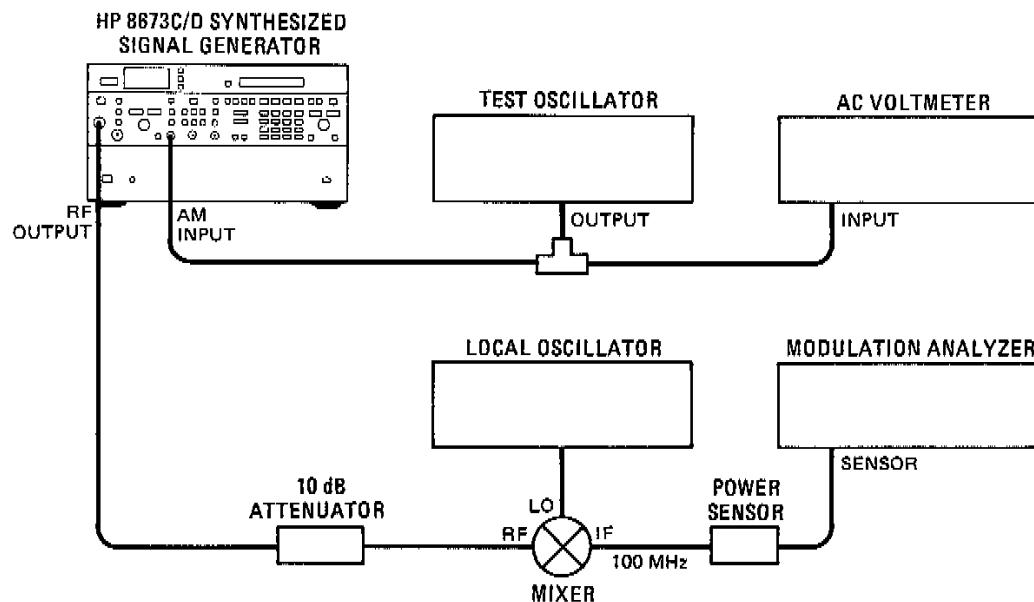

Figure 4-5. AM Accuracy Test Setup
10. Connect equipment as shown in Figure 4-5.